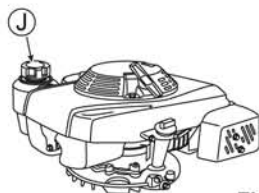

Fig. 9
1. Open Fuel tank cap (J) and refuel gasoline. Immediately wipe off with a rag if gasoline is spilt. (See Fig. 9)
2. Firmly close Fuel tank cap (J) after refueling.